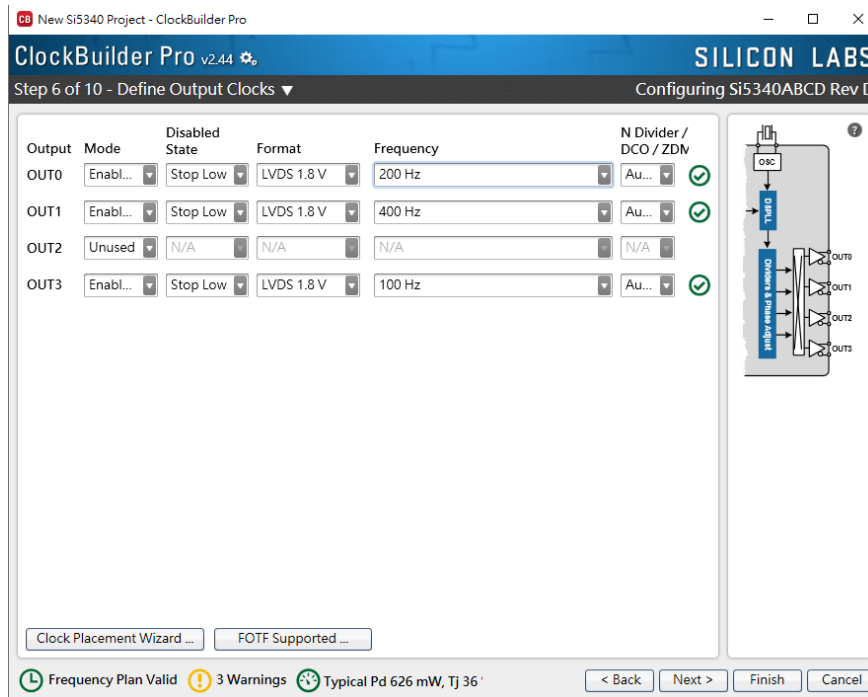

Figure 5-4 Define Output Clock Frequencies on ClockBuilder Pro Wizard
- After the installation, select Si5340, and configure the input frequency and output frequency as shown in **Figure 5-4**.